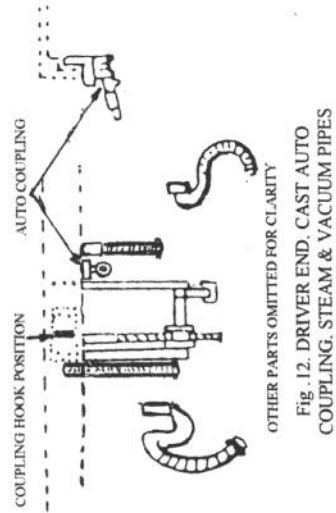

Fig. 12. DRIVER END, CAST AUTO COUPLING, STEAM & VACUUM PIPES
j. Fit the driver end cast auto coupling and, steam and vacuum pipes, Fig.12. (Note: To ensure a fit some filing of the mounting end tabs may be necessary).